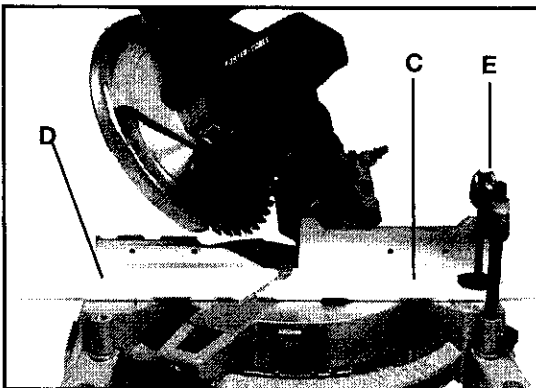
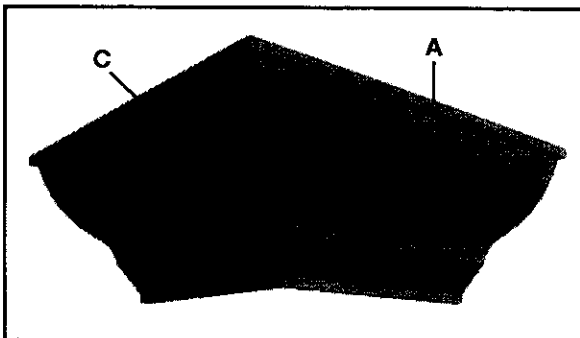

Fig. 43
Fig. 44
5. Place the crown moulding on the table with the **WALL EDGE** of the crown moulding against the fence and make the cut. Again, the piece of crown moulding used for the outside corner will always be on the right side of the blade, as shown at (C) Fig. 43. The piece of crown moulding used for the inside corner will always be on the left side of the blade, as shown at (D) Fig. 43. Again, the accessory work clamp (E) is being used to hold the workpiece in position.
6. Fig. 44 illustrates the two outside corner pieces; (1) being the piece cut at (D) Fig. 43 and (2) being the piece cut at (C) Fig. 43.